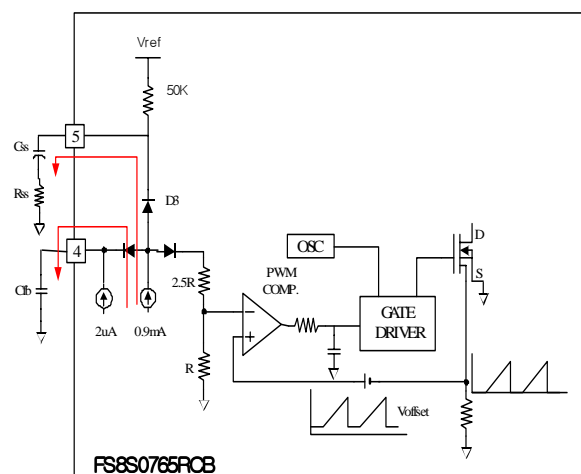

Figure 7. The circuit for the soft start
4. Soft Start : Figure 7 shows the soft start circuit. During the initial start up, the 0.9 mA current source leaks out through C_{SS} and R_{SS}. As C_{SS} is charged, the leakage current decreases. Therefore, by choosing much bigger C_{SS} than C_{fb}, it is possible to increase the feedback voltage slowly forcing the SenseFET current to increase slowly. After C_{SS} reaches its steady state value, D3 is blocked and the soft switching circuit is decoupled from the feedback circuit. If the value of C_{SS} is too large, there is possibility that Vfb increases to 7.5V activating the over load protection during soft start time. In order to avoid this situation, it is recommended that the value of C_{SS} should not exceed 100 times of C_{fb}.